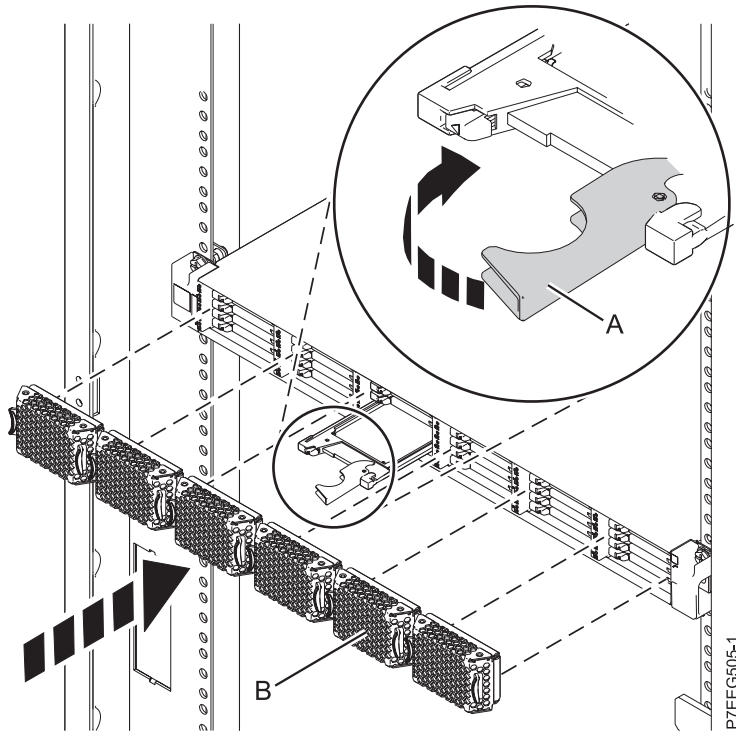

Figure 4. Installing a solid-state drive in the ED/R1 PCIe storage enclosure
1. With the handle in the unlocked position, align the solid-state drive with the guide rails in the enclosure. See Figure 4 on page 10.
5. Rotate the handle (A) to the locked position.
6. Install the bezel (B).